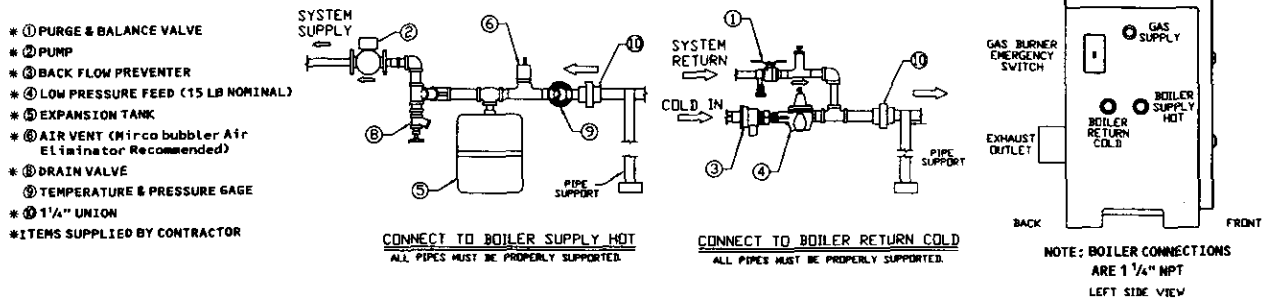

Figure 1: Supply and Return Near Boiler Piping
1. Size the supply and return to suit the system. Refer to Figure 1. Refer also to the I=B=R Installation Guide No. 2000 and the Peerless Water Survey for additional guidance during water piping installation.
3. Refer to Figure 1 for suggested controls and components location in the near boiler piping.
All piping must be properly supported. See Figure 1.
Refer back to Figure 1 for typical expansion tank piping.